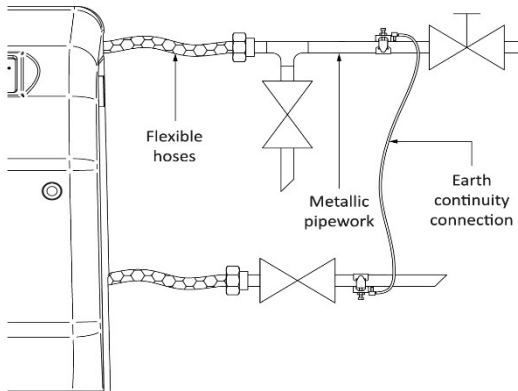

Fig. 14
**7.15 Adjacent pipes:** Adjacent suction and delivery pipes should be fitted with earthing clamps in accordance with current regulations (Fig. 14).